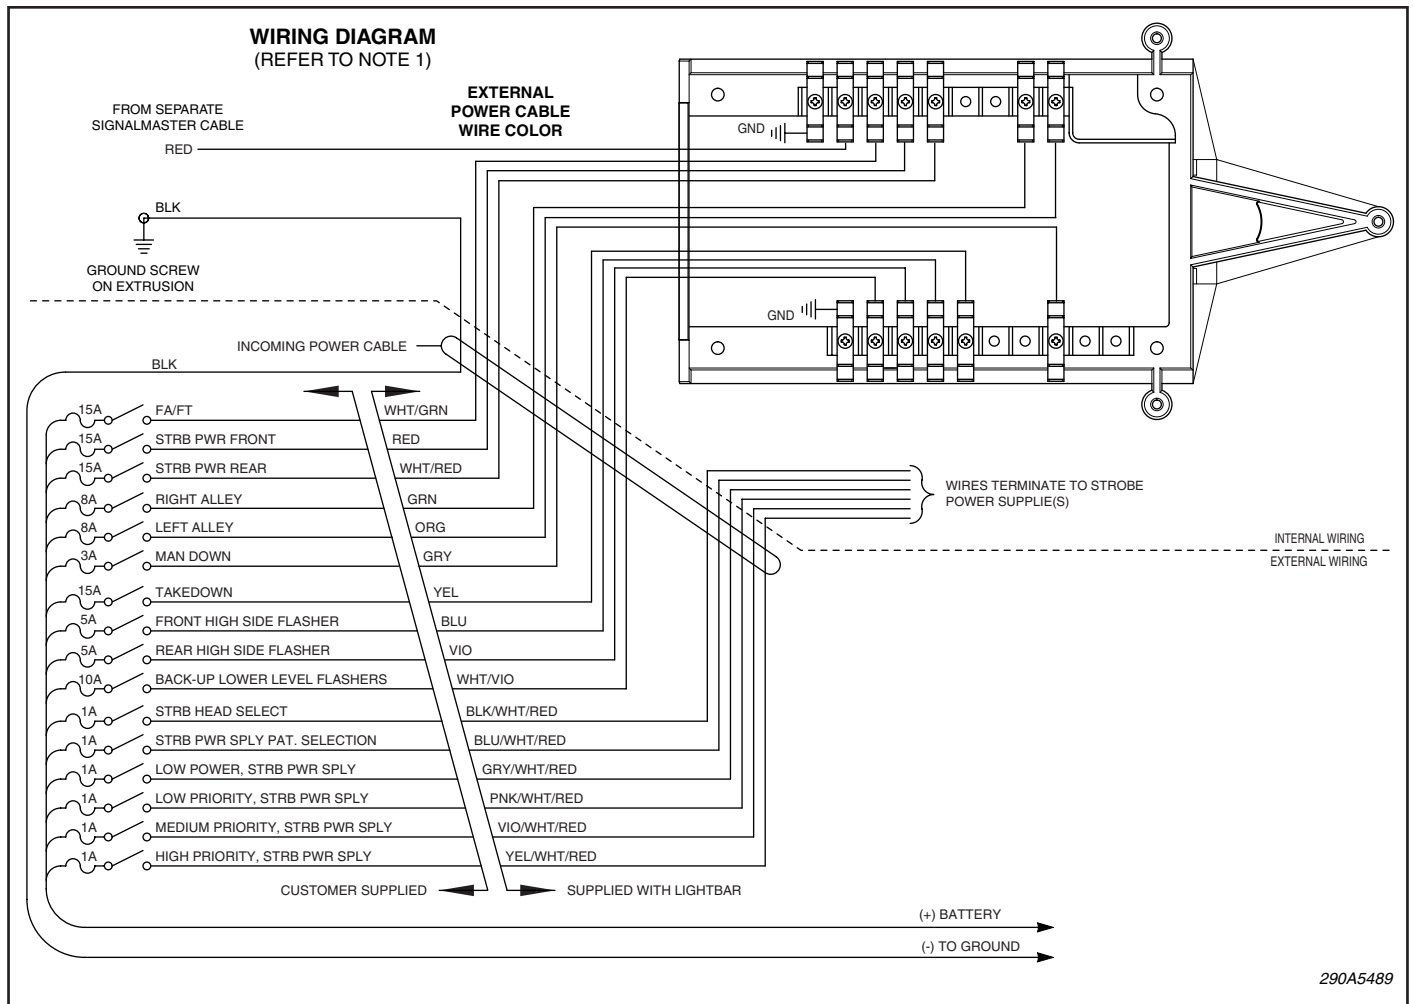

Figure 1.
2. For proper light operation, the control cable must be properly terminated inside the user-supplied control head. Using figure 1 and table 1 as a guide, make the appropriate electrical connections. Ensure that the lines are adequately fused as shown, and that switch capacity is adequate for the current requirement.
To activate front LED flasher apply 12VDC to the Blue wire. See figure 1 for proper fusing.
To activate rear LED flasher apply 12VDC to the Violet wire. See figure 1 for proper fusing.
To activate the backup activation for both front and rear LED flashers apply 12VDC to the WHT/VIO wire. See figure 1 for proper fusing.
Apply 12VDC to the Gray wire. See figure 1 for proper fusing.